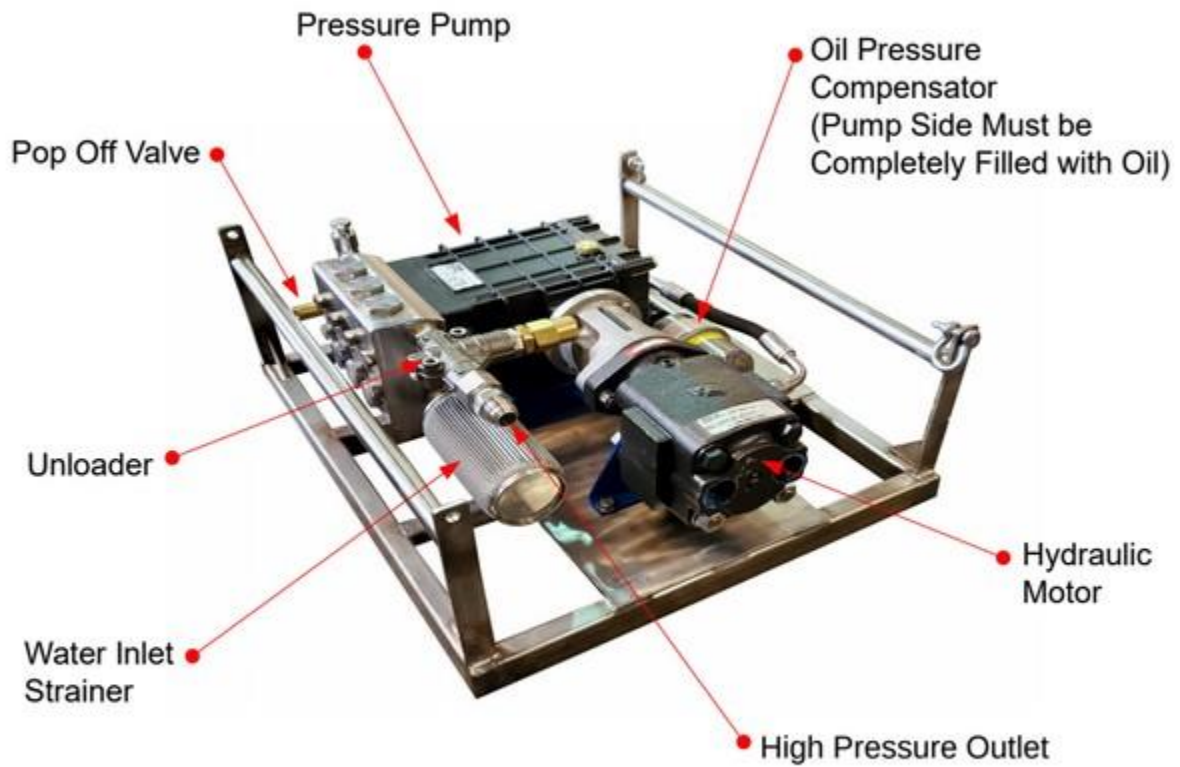

Figure 2.1 – CaviBlaster® 1030-ROV General Features
The first time a component is mentioned, it is typically followed by a figure reference; e.g., Emergency Stop button (See Figure 2.1). Figure numbers and section numbers are always coincident.
See Figure 2.1 for item locations.
- 2) Inspect the water inlet strainer to ensure that it is not clogged (See Figure 2.1). Clean if necessary.